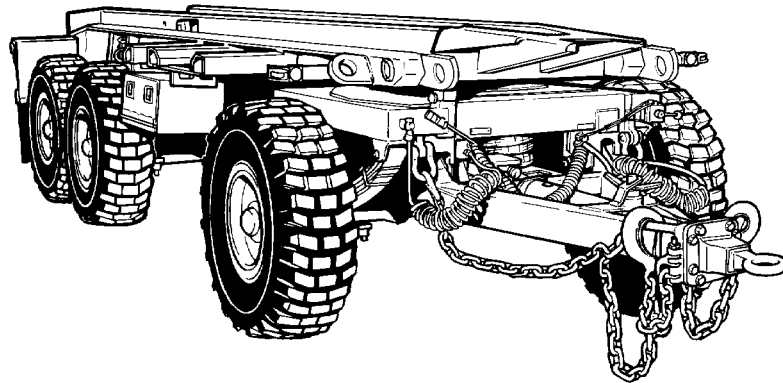

Figure 1-1. Palletized Load System Trailer, M1076, Right Front View
- b. Model Number and Equipment Name.* Palletized Load System Trailer (PLST), M1076, NSN 2330-01-303-5197, (Figures 1-1 and 1-2).